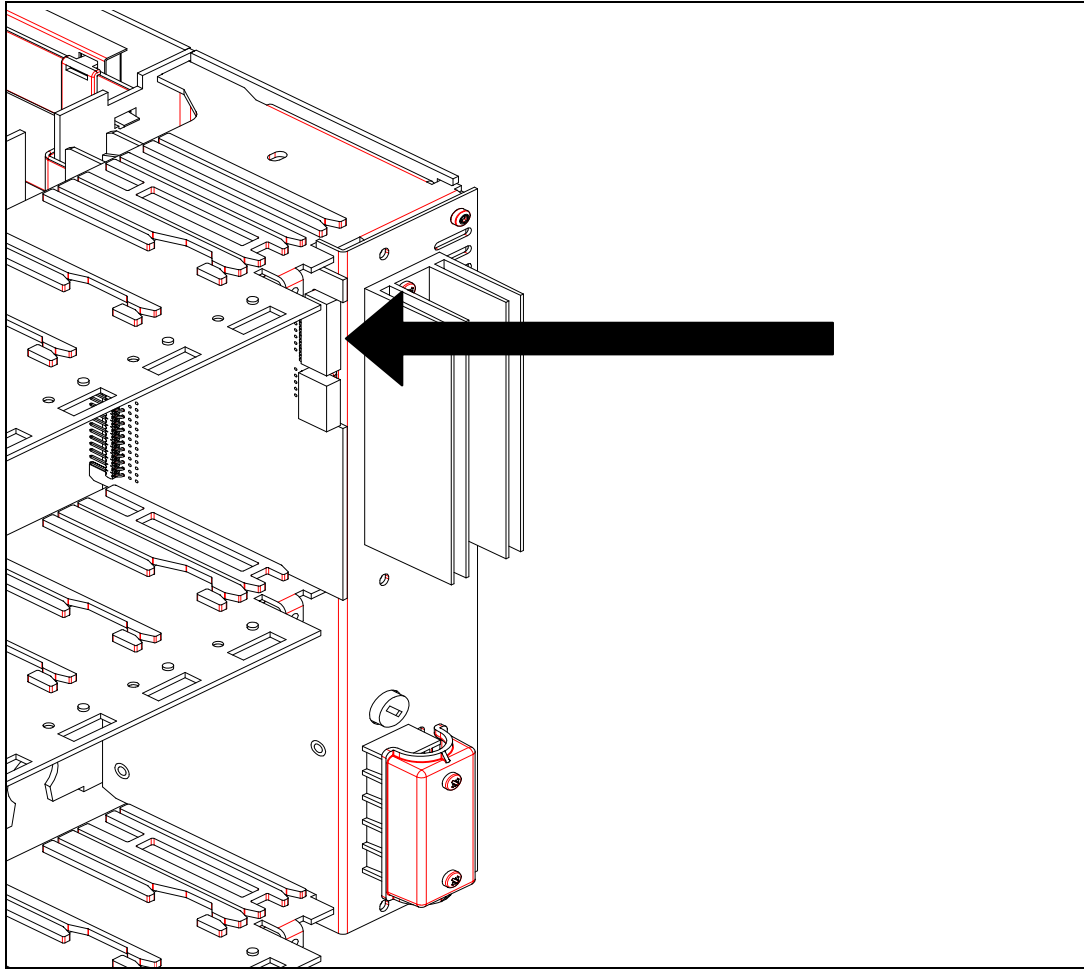

Figure 2-14
34. Connect the MMI flat cable to the CPU Board (see Figure 2-14). Ensure the connectors are located correctly.